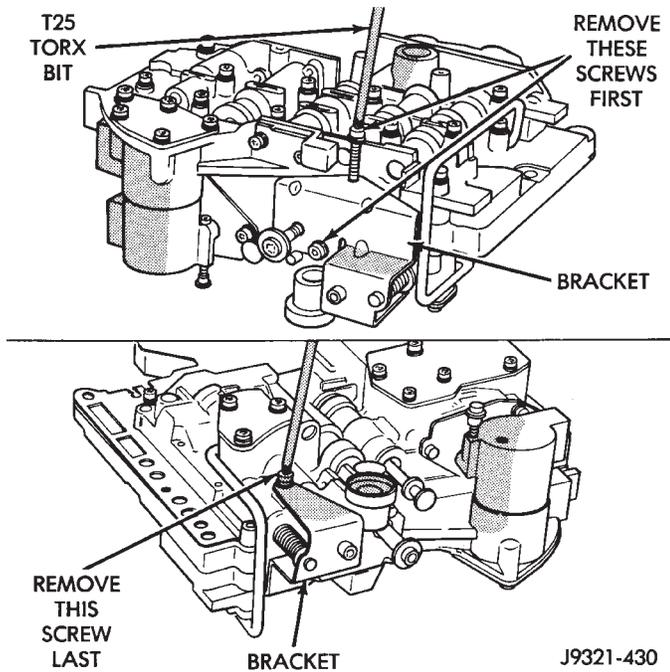

Fig. 76 Adjusting Screw Bracket Fastener
(19) Remove screws attaching pressure adjusting screw bracket to valve body and transfer plate (Fig. 76). Hold bracket firmly against spring tension while removing last screw.